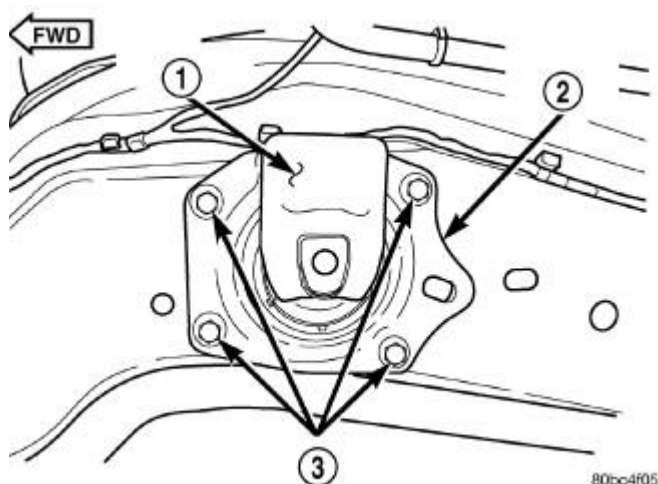

Fig. 180: Engine Mount-Right
2. Using a permanent ink marker or equivalent, mark the position of engine mount (2) to the body frame rail.
3. Remove bolts (3) attaching mount to body . See **Fig. 180**.
4. Remove mount (2).